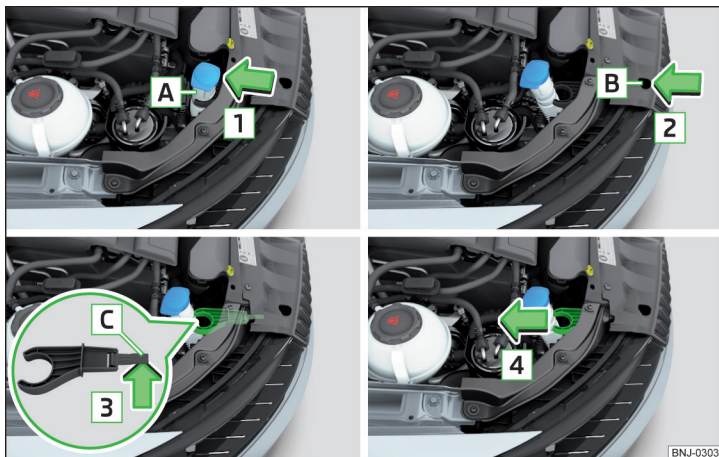

Fig. 297 Remove the mounting for the mopping water container nozzle
- Remove the container nozzle **A** from the holder in the direction of arrow **1** » Fig. 297.
- Slide the holder of the container nozzle in the opposite direction to the arrow **4** » Fig. 297.